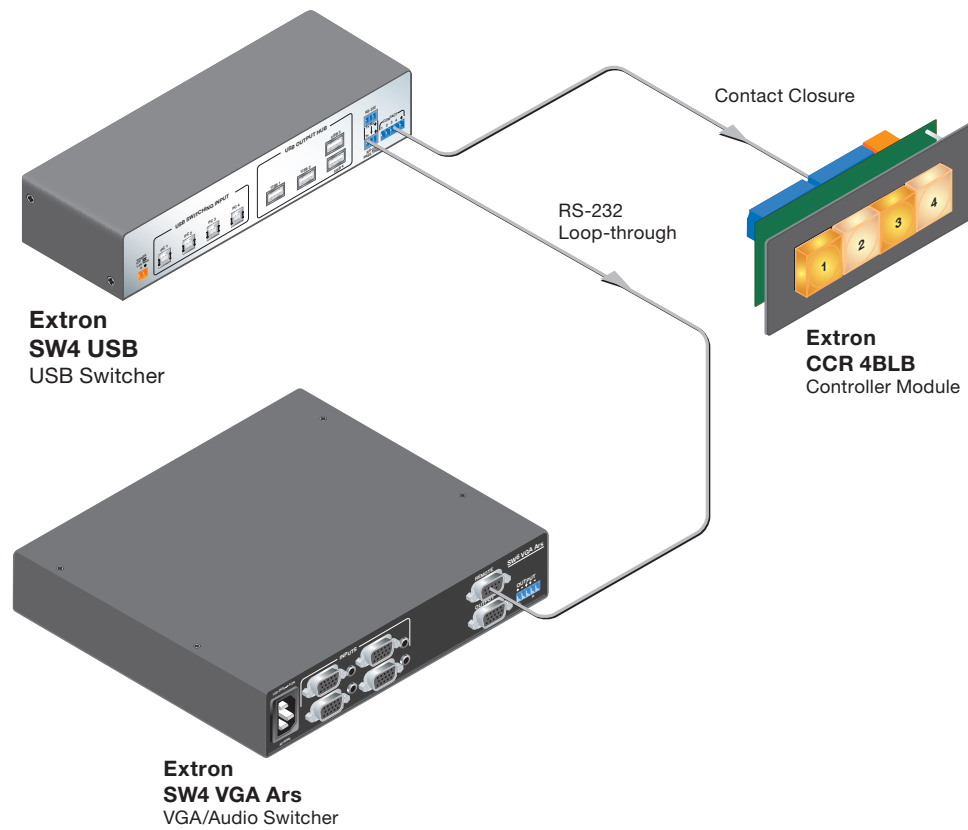

Figure 7. Using the SW USB with a Contact Closure Device and an AV Switcher
2. Connect the SW USB RS-232 Pass Thru port to the RS-232 port on the AV switcher (see figure 7 on the next page).